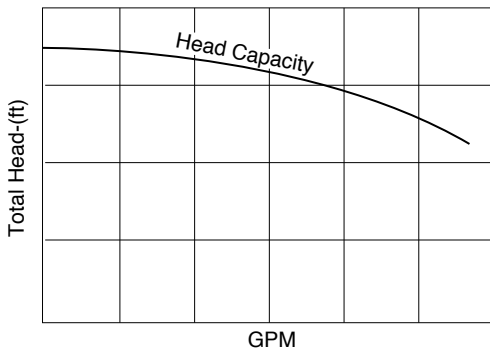

FIGURE 45. Head-Capacity Curve
- Any centrifugal pump has a rating curve that indicates the relationship between the head developed by the pump and the flow through the pump for a particular speed, and for a particular diameter impeller when handling a liquid of negligible viscosity, usually water (Figure 45).